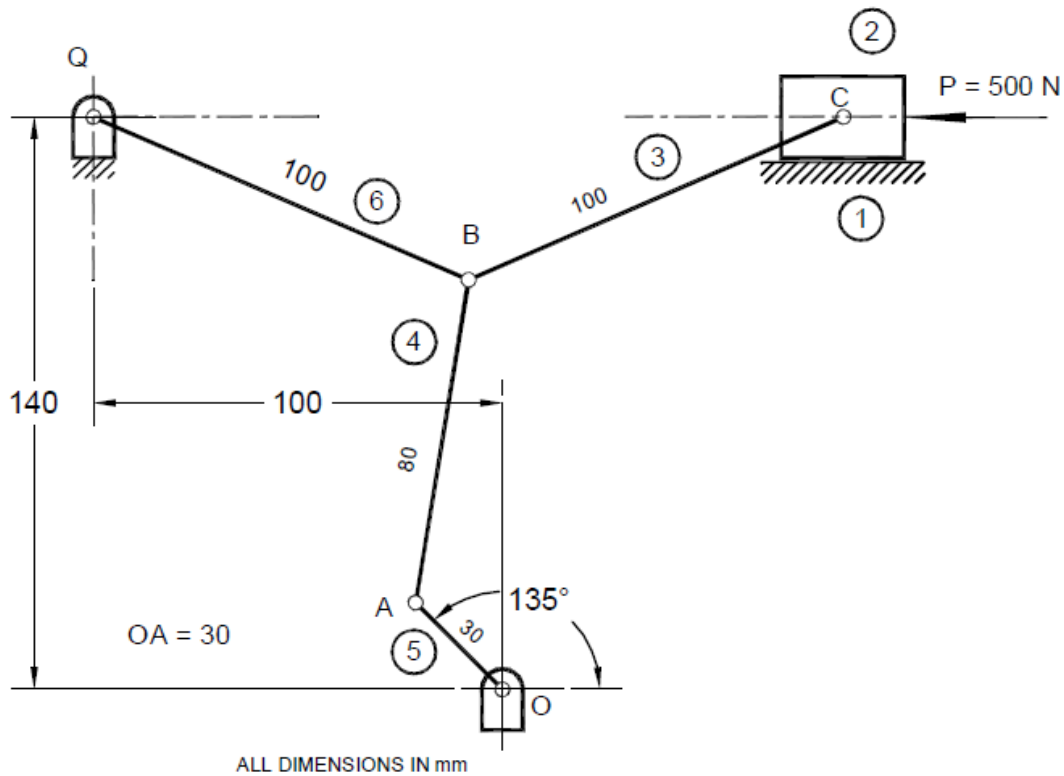

Figure. 1B
- 1B.** Figure 1B shows a toggle press mechanism. A force of magnitude $P = 500 \text{ N}$ is applied on the slider, acting towards the left. Determine the torque developed at the crank OA. Also find the magnitude and direction of the couple “T” for maintaining static equilibrium. Point C and Q are along same line of action. (Draw the configuration, free body and analysis diagrams). All dimensions are in mm. **05**